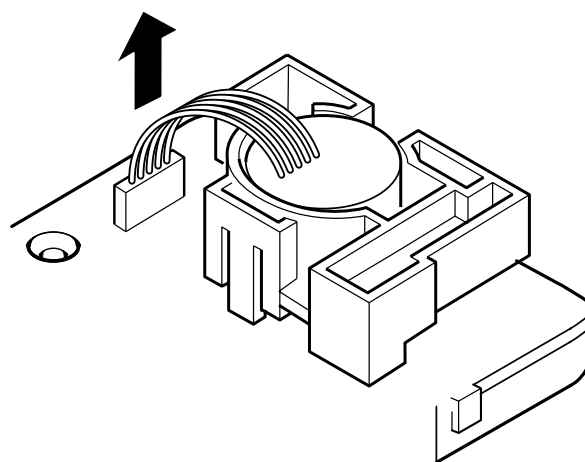

Figure 6: Buffer recessed cable removal
6. Figure 6 Remove the buffer recessed cable assembly from the cable clamp
7. Figure 6 Unclip the bumper recess assembly from the R/C